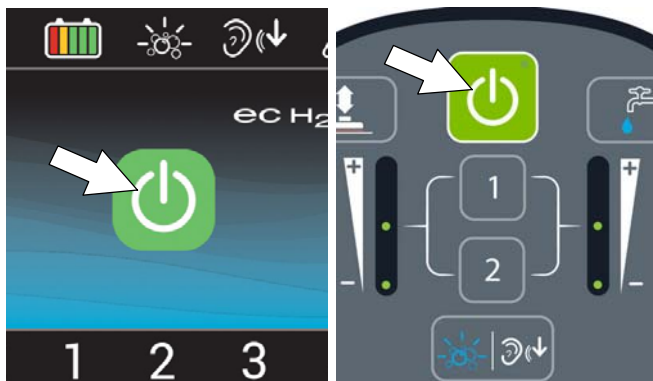

FIG. 77
- Press the 1-STEP button to activate the scrub function (Figure 77). The scrub head will lower to floor.